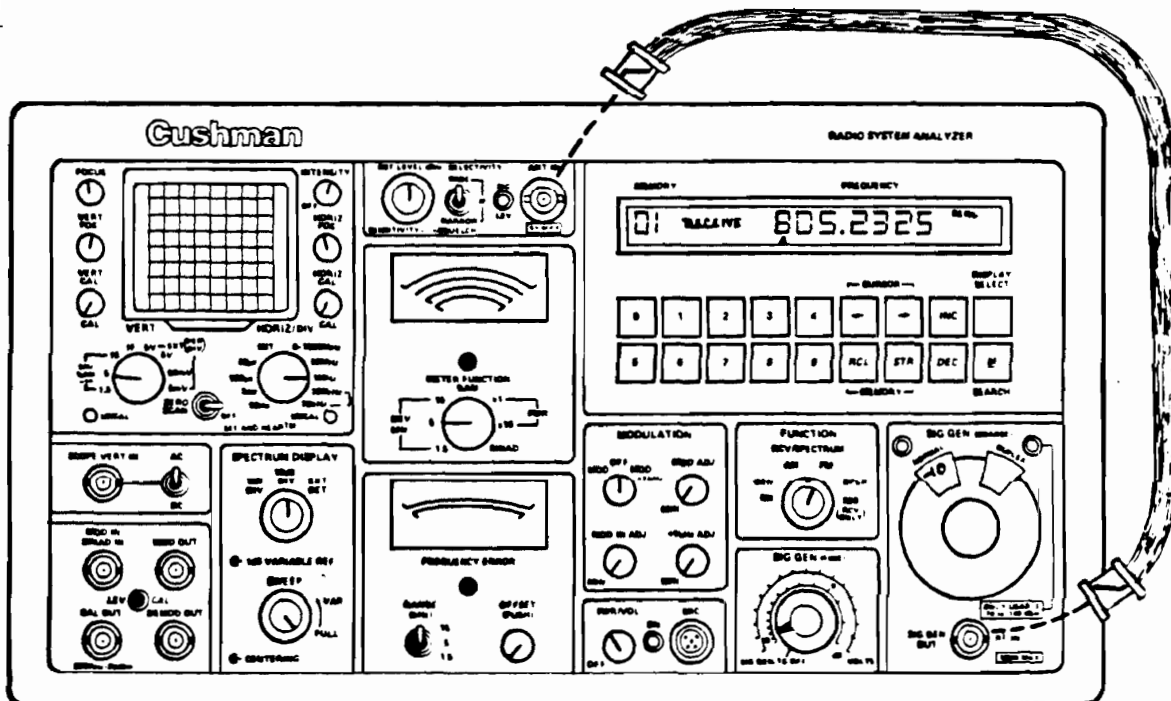

Figure 5-4. Tracking Generator Verification Set-Up
- * Connect the SIG GEN OUT/RF IN connector to ANT IN as shown in Figure 5-4.